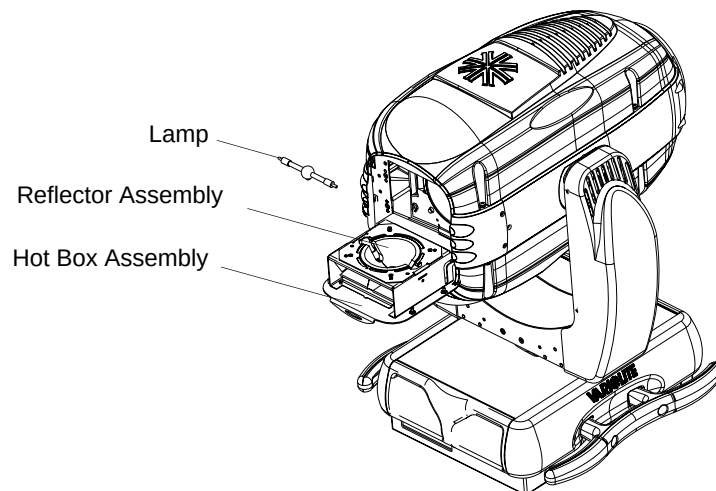

Figure 2-5: Lamp Removal
- Step 6. As shown in Figure 2-5, at rear of luminaire head (hot box assembly), loosen four 1/4-turn screws and slide lamp box back and out (it is hinged).